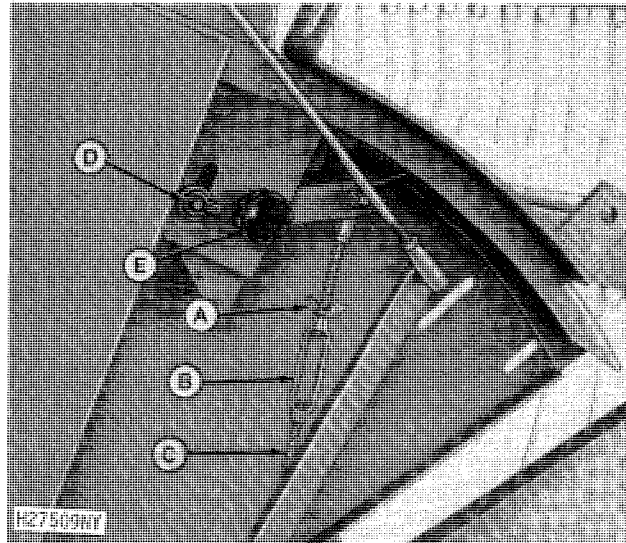

Fig. 119-Adjusting Switches
3. Loosen wing nut "A" and rotate turnbuckle "B" to lengthen rod "C" until raise switch clicks (Fig. 119). Then rotate turnbuckle one additional turn and tighten wing nut "A".
4. Start combine engine and raise platform until the red range indicator ball is on "2". Loosen wing nut "D" and rotate knob "E" counterclockwise until the lower switch clicks (Fig. 119). Tighten wing nut.
*NOTE: To check setting of raise switch, raise platform to maximum height and lower hydraulic cylinder safety stop. Push cutterbar up, by hand, at each sensor pad and have another person listen for raise switch to click. If raise switch does not click when cutterbar is pushed up at each sensor pad, continue to lengthen rod "C" (Fig. 119) until switch clicks.*